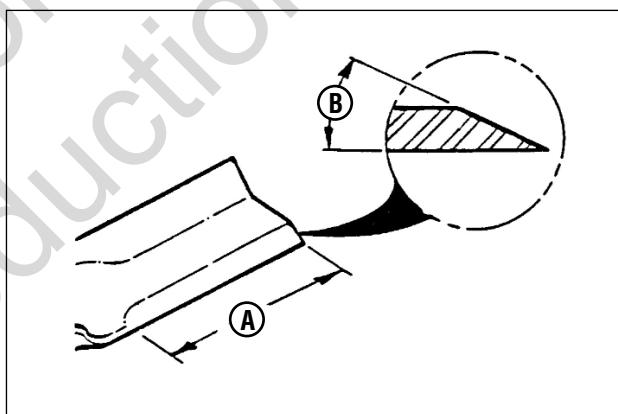

Figure 43: Sharpening the mower blade
5. If the blade is in good condition, sharpen at 22 to 28 degrees (B, Figure 43). DO NOT sharpen beyond existing cutting edge (A).